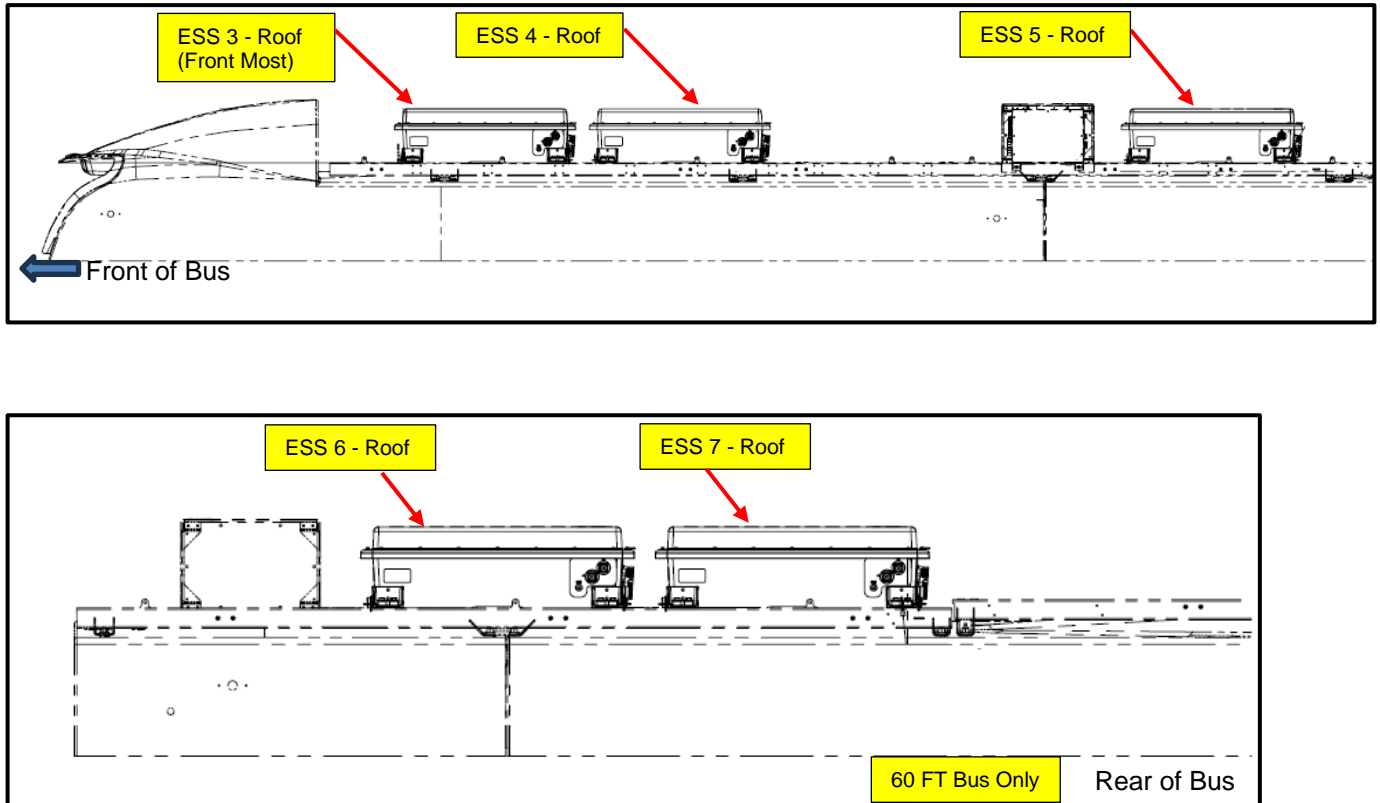

Figure 6: Upper ESS Assembly Serial Number Documentation Location Reference.
26. Then locate the serial number plates on the side of each unit being removed and installed and fill out the form and return to the RPSM for warranty and S/N tracking removed and installed units. See Figure 6.